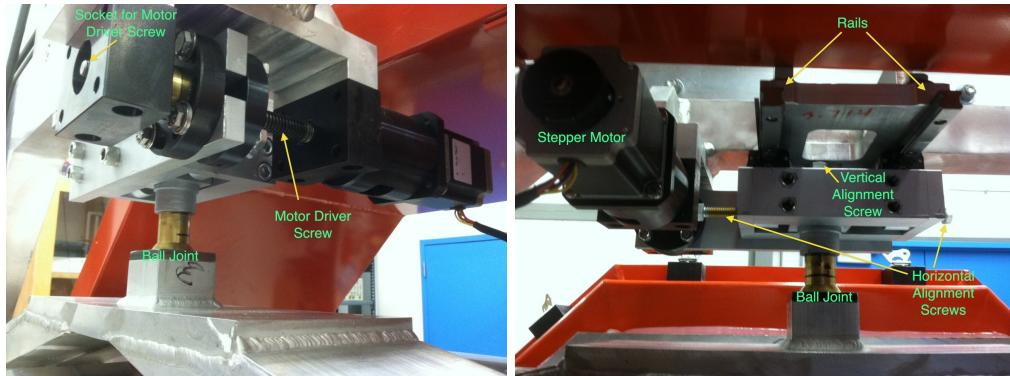

Figure 2: Motor assembly with relevant labels (the top motor assembly is shown).
Figure 2 shows in detail one of the three motor assemblies. Motion is controlled in each assembly by a stepper motor that twists a motor driver screw. The twist of this screw pushes or pulls a flange rigidly connected to the ball pin assembly. The motion of this ball pin assembly is restricted to an axis defined by a rail system. The driver screw and rails must be parallel for this to work well. One step from a stepper motor corresponds to  $\sim 1.02$  micron of motion along this axis for the ball pin. The total range of motion is 5 cm along this direction (z).
Conversely, motion along the x/y axis is performed manually. With the horizontal alignment screws loose, the ball pin can move along a track perpendicular to the rails (see Fig. 2). However, there is no stepper to help with horizontal shifts. Additionally, the
7. **Warning 2:** Make sure that the top horizontal screw (left one) has clearance to move along the full z axis. See Fig. 2, don't be in the case where this screw will hit the stepper motor assembly when moving along the z axis.